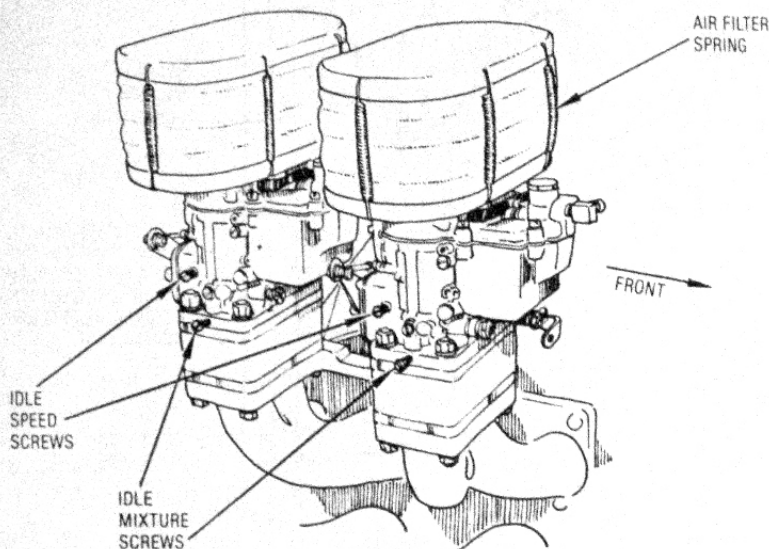

FIGURE 2
6. Back out idle speed screws (Fig. 2, Pg. 6) in carbs until throttle plates are fully closed.
2. Turn the idle mixture screws (Figure 2) all the way in, then back out one turn each.
10. Place air filter bases on carb tops (base with hose fitting goes on rear carb). Fit PCV hose to fitting on rear air filter. Install air horns over air filter bases and secure with 5mm flange nuts provided. Saturate filtron elements with oil provided (squeeze out excess) and fit over supporting screens. Install element assemblies and filter tops to carbs. Secure with springs provided as shown in Figure 2. NOTE: Except while adjusting carbs, *never* operate a rotary engine without air filters. Even a small particle of dirt can severely damage the housings.